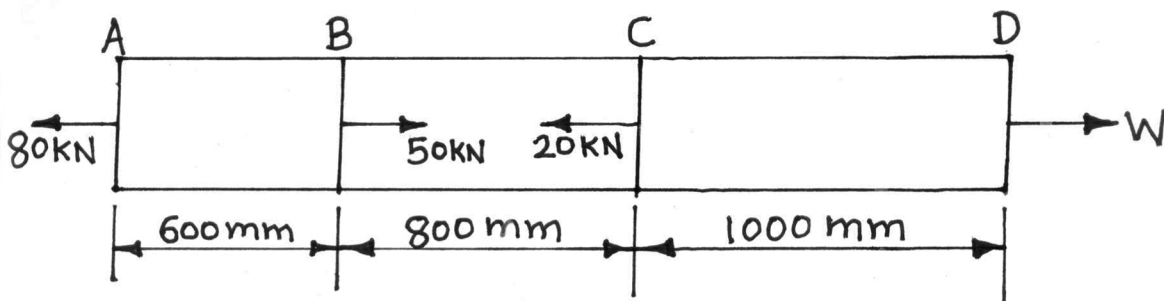

Figure No. 4.
- a) A steel bar ABCD having  $100 \text{ mm}^2$  cross sectional area is loaded axially as shown in Figure No. 4. Find the unknown force 'W' and deformation of bar. Take  $E = 200 \text{ GPa}$ .